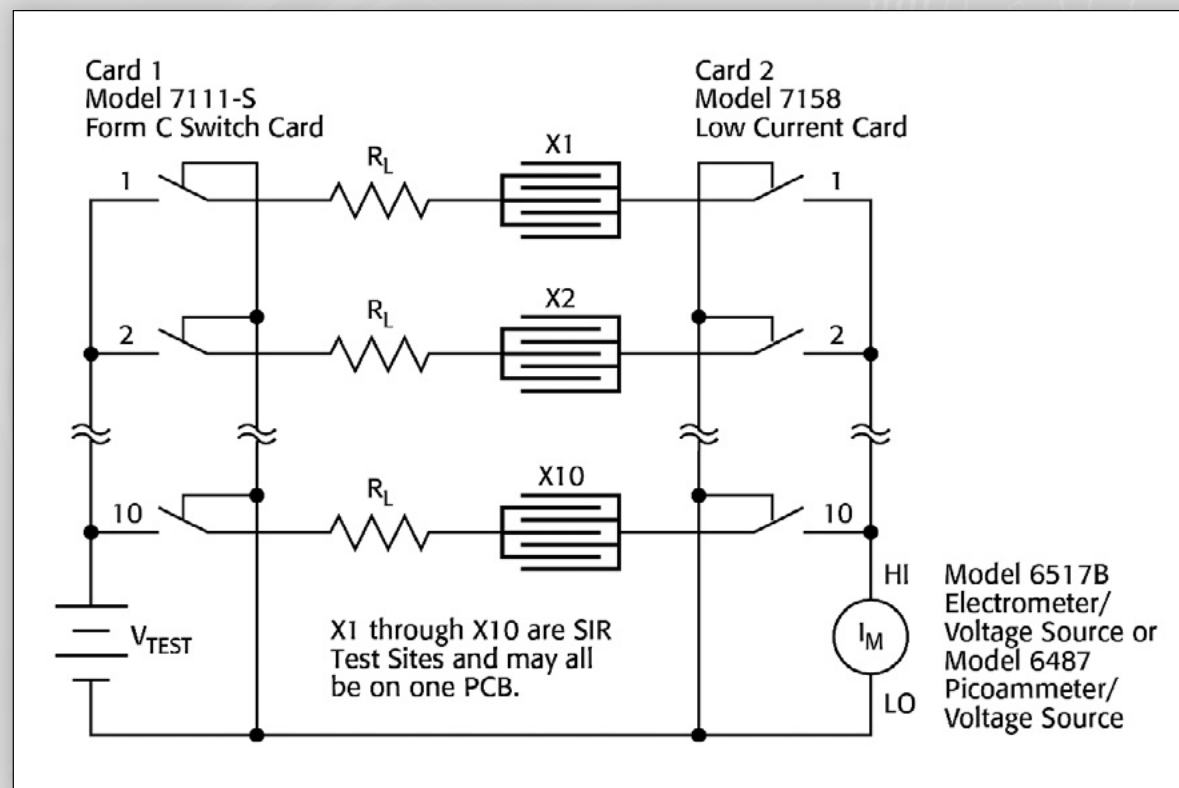

Figure 6. PCB insulation resistance measurement
- PCB surface insulation resistance** – Low surface insulation resistance (SIR) of a printed circuit board (PCB) can degrade the performance of the circuits on the board considerably. Factors that affect a board's surface insulation resistance include the board material used, the presence of coatings such as solder masking or conformal coatings, board cleanliness, and relative humidity. The measured insulation resistance typically ranges from  $10^7\Omega$  to  $10^{16}\Omega$ . **Figure 6** shows a test setup for measuring PCB surface resistances.